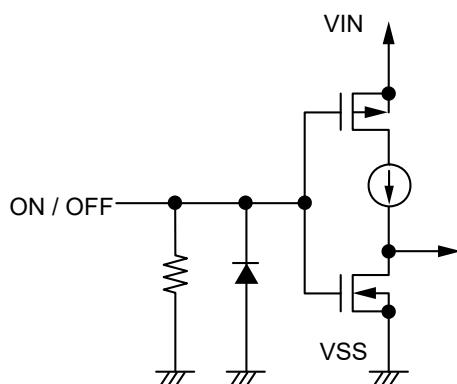

Figure 23 S-19259 Series A / C / E / G type
The ON / OFF pin is configured as shown in **Figure 23** and **Figure 24**.
*2. Note that the IC's current consumption increases as much as current flows into the pull-down resistor when the ON / OFF pin is connected to the VIN pin and the S-19259 Series A / C / E / G type is operating (refer to **Figure 23**).